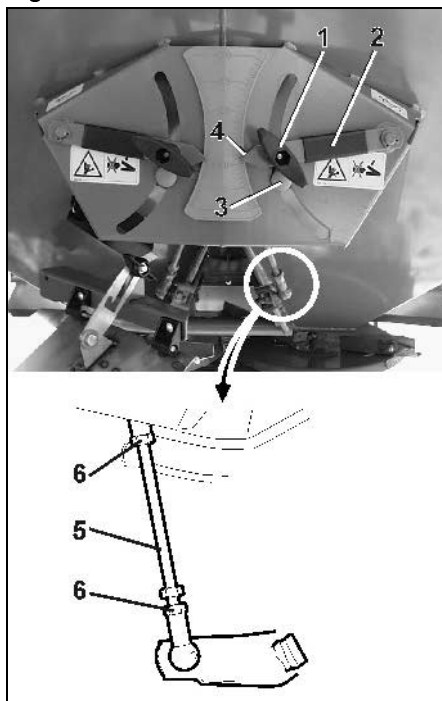

Fig. 63
- After slackening the thumb nut (Fig. 63/1) the setting lever (Fig. 63/2) must touch the stop (Fig. 63/3). In this position the read off edge (Fig. 63/4) for the shutter position must show the figure "11" on the scale.
- Slacken counter nuts (Fig. 63/6) of the connecting rods (Fig. 63/5).
- Twist the connecting rods as long as the stop (Fig. 63/3) lies close at the setting lever (Fig. 63/2).